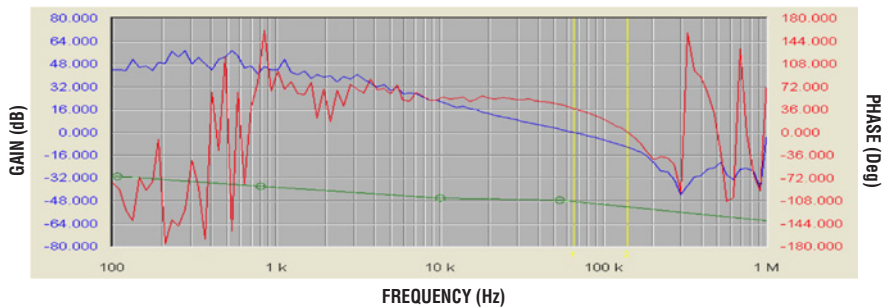

Figure 35. LTM4650A-1 2-Phase, 1V at 50A Design with  $\pm 3\%$  Transient Response
**Table 6. Output Voltage Response vs Component Matrix (Refer to Figure 35) Load Step Typical Measured Values**